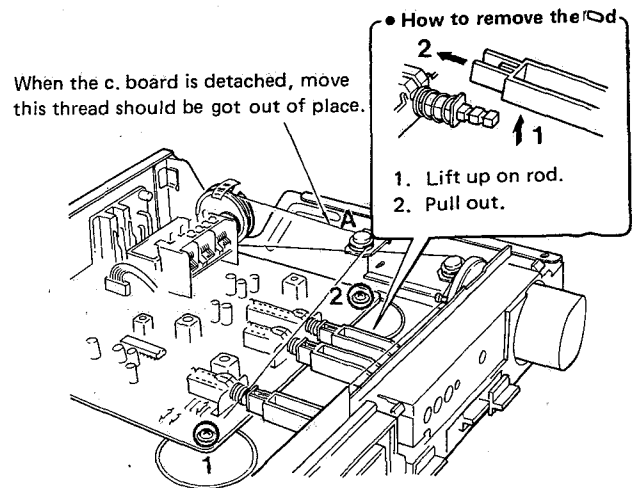

Fig. 4
- Apply adhesive tape to the pulley as shown in fig. 4 so that the dial string will not slip from the pulley.
- Remove three rods as shown in fig. 4.
- Remove screws ① and ② in fig. 4 and turn the tuner c. board upside down, then replace parts.
*At this time, it is necessary to detach the string at pulley A as shown in fig. 4.